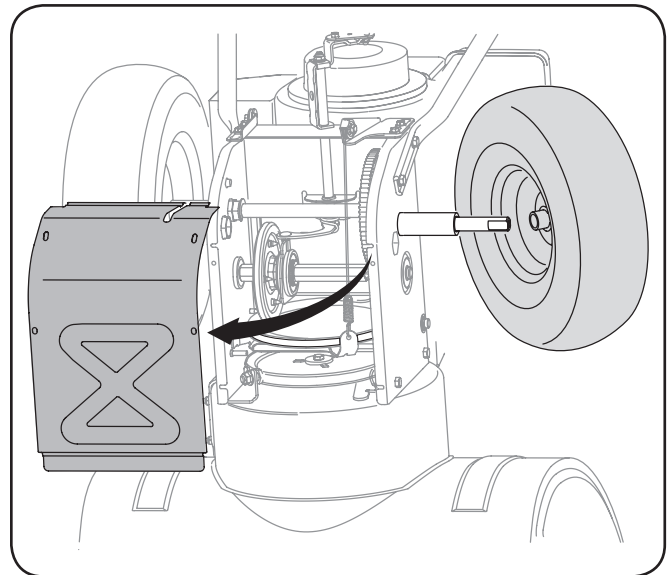

Figure 7-8
4. Remove the frame cover from the underside of the snow thrower by removing the self-tapping screws which secure it. Remove the right-hand wheel by removing the screw and bell washer which secure it to the axle. See Figure 7-8.